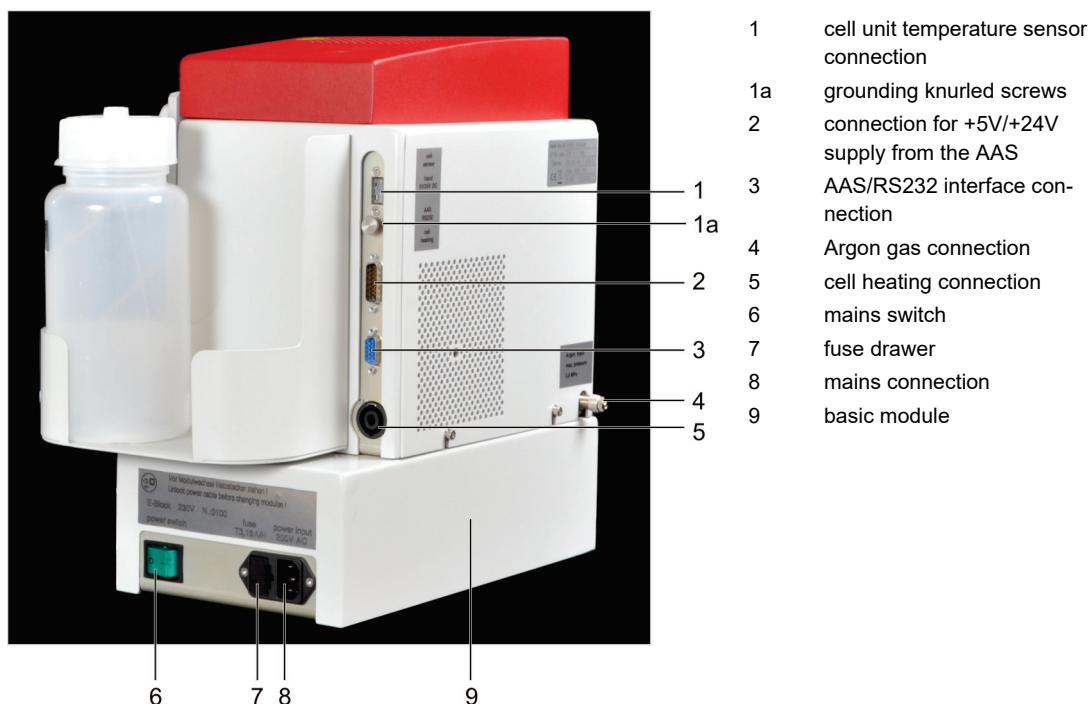

Figure 18 Hg/Hydrate system HS 60 modular – connections on the right-hand side
- Heating cable at the connection "cell heating" (5, see Figure 18)
- Temperature sensor cable at the connection "cell sensor" (1)
- D-Sub jack "HS" of the thinner cable to connection "input 5 V/24 V DC" of the HS 60 modular (2)
3. Connect the signal cable to connector "HS" of the AAS device and to connector "AAS – RS232" of the HS 60 modular (3, see Figure 18).
5. Connect the Argon hose to the bulkhead fitting on the backplate (4).